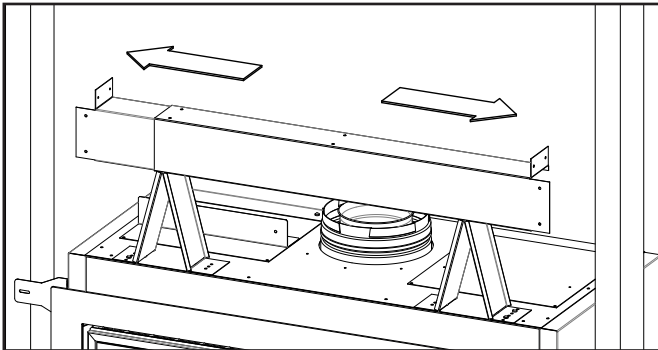

Figure 28: Steel Stud Placement
- Place the steel stud onto the top standoffs and slide outwards until both ends make contact with the framing studs (see Figure 28).